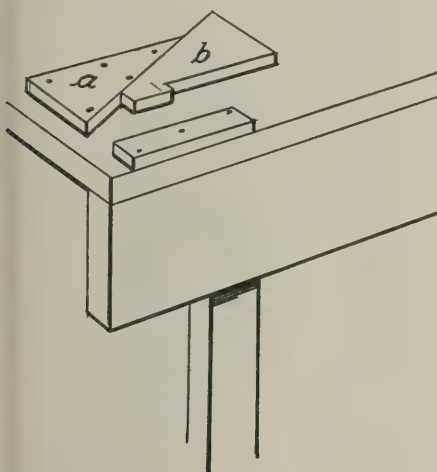

Fig. 1
S. E. T., Alamagordo, N. M., sends the idea for a bench stop shown in Figure 1. He writes: "This is a bench stop which is real handy and easily made. Take a board about six inches wide by about ten inches